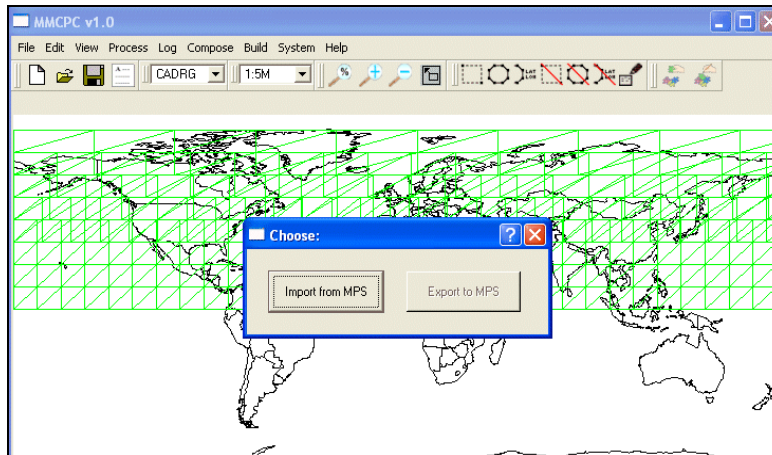

Fig. 55 — File import/export MPS window
2. A window is displayed to select an import file (Fig. 55). Click Import from MPS.